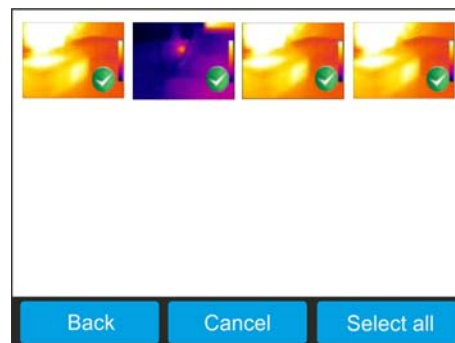

Fig. 69: Selection and deletion of IR videos
1. Touch the icon “Delete” inside the IR video gallery. The following screen (see Fig. 69 – Right side) is shown on the display: